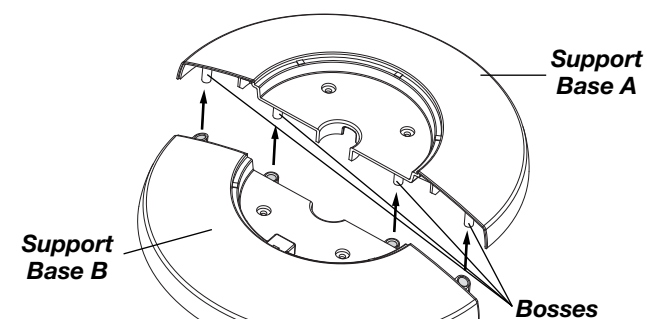

Figure 1
2. Assemble the Support Bases by interlocking the **Bosses** on **Support Base A** into the **Boss Holes** on **Support Base B**. Thread the **Power Supply Cord** through the large hole in the center of the Support Base Assembly. (*Figure 1*)